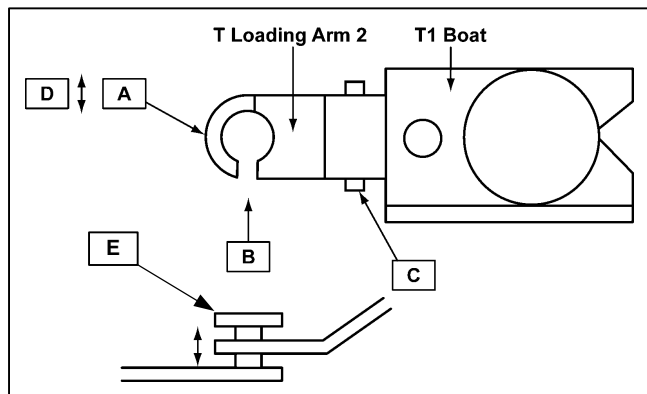
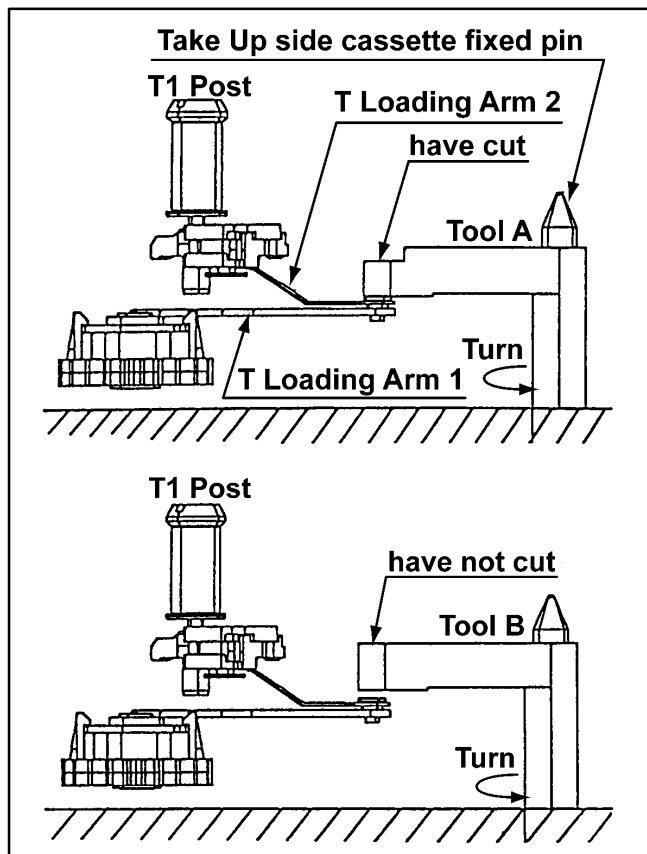

Figure 1-20-1
Figure 1-20-3
3. Set the T Arm Height Adj. Tool A (VFK1452) to take up side cassette fixed pin as shown in figure 1-20-3.
4. Turn the Tool A and confirm that the Tool A is contact to pin E (the position of pin E as shown in figure 1-20-1) as shown in figure 1-20-3.
5. Set the T Arm Height Adj. Tool B (VFK1543) to take up side cassette fixed pin as shown in figure 1-20-3.
6. Turn the Tool B and confirm that the Tool B is not contact to pin E (the position of pin E as shown in figure 1-20-1) as shown in figure 1-20-3.